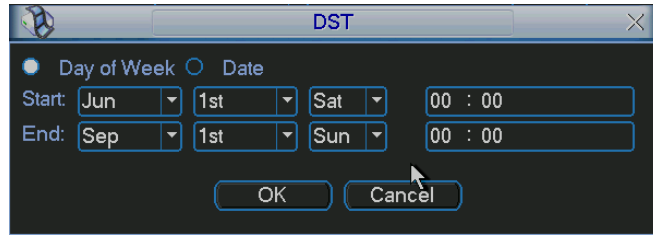
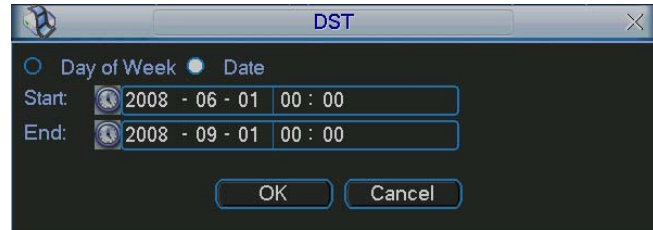

Figure 5-22
Figure 5-23
- DST: Here you can set DST time and date. Please enable DST function and then click set button. You can see an interface is shown as in Figure 5-22. Here you can set start time and end time by setting corresponding week setup. In Figure 5-22, enable date button, you can see an interface is shown as in Figure 5-23. Here you can set start time and end time by setting corresponding date setup.